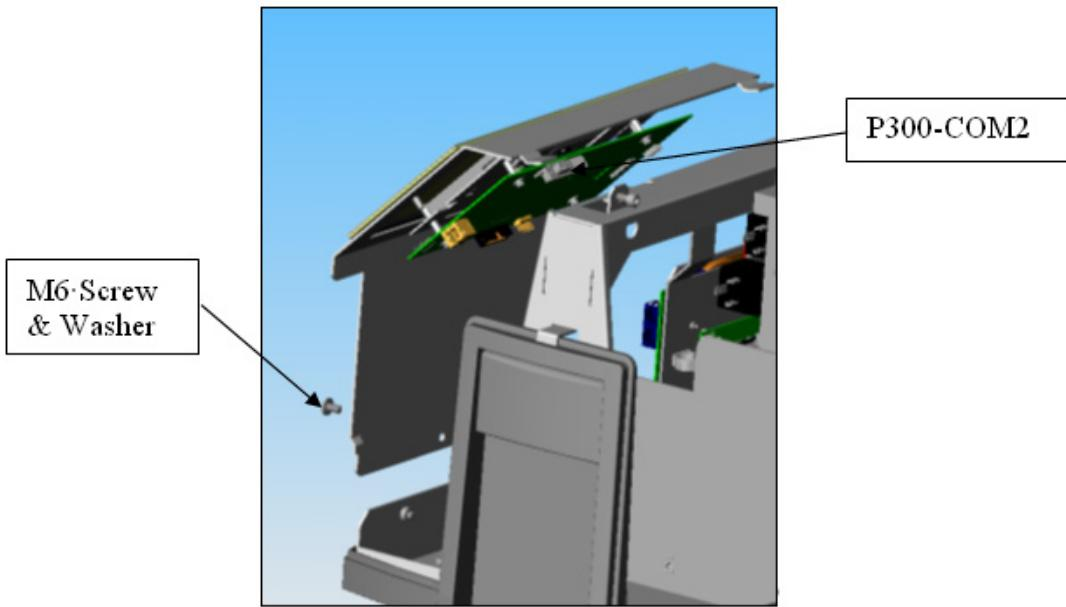

Figure 5: Front Panel Display
14. Remove the M6 screw and washer from the front panel display and detach the display (Figure 5: Front Panel Display).
15. Connect the RS-232 cable end labeled J300-2 to P300-COM2 on the front panel display board using its two slotted screws (Figure 5: Front Panel Display).